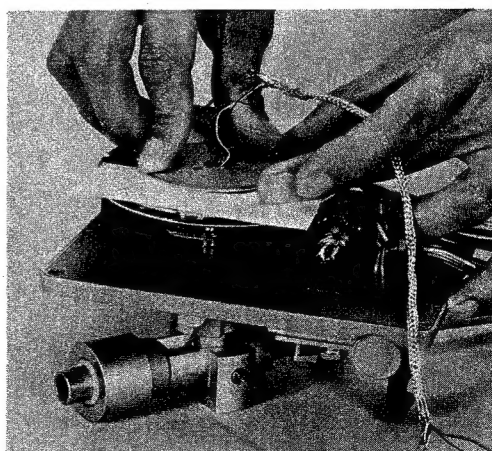

Fig. 13
1. Removal of Yoke B (Figs 13 and 14)